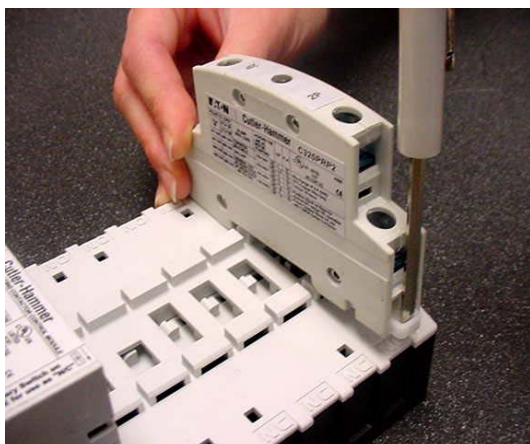

Figure 1
3. Remove block by using a screwdriver and pull the clip as shown (see Figure 1). Rotate block 180 degrees to convert from NO to NC or from NC to NO.